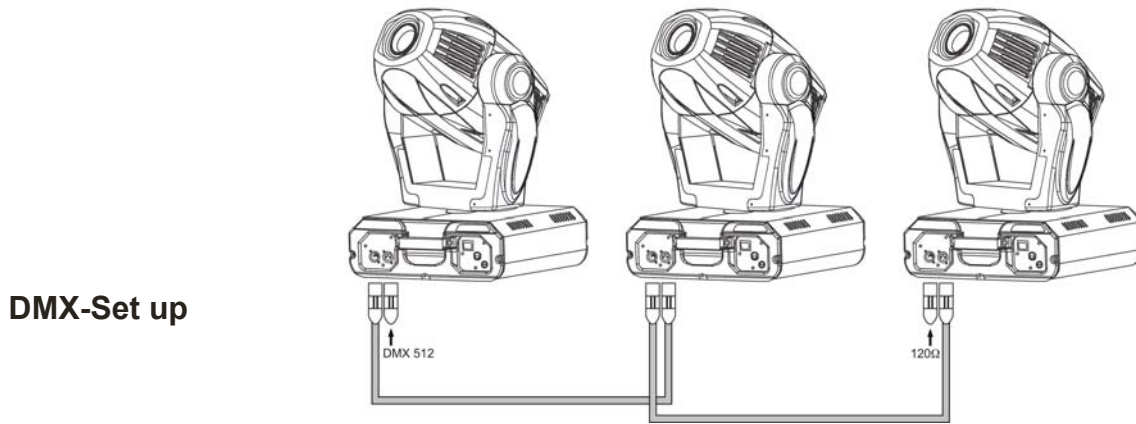

Fig. 6
4. Link the units as shown (Fig. 6). Connect a DMX signal cable from the first unit's DMX "out" socket to the second unit's "in" socket. Repeat this process to link the second, third, and fourth units.